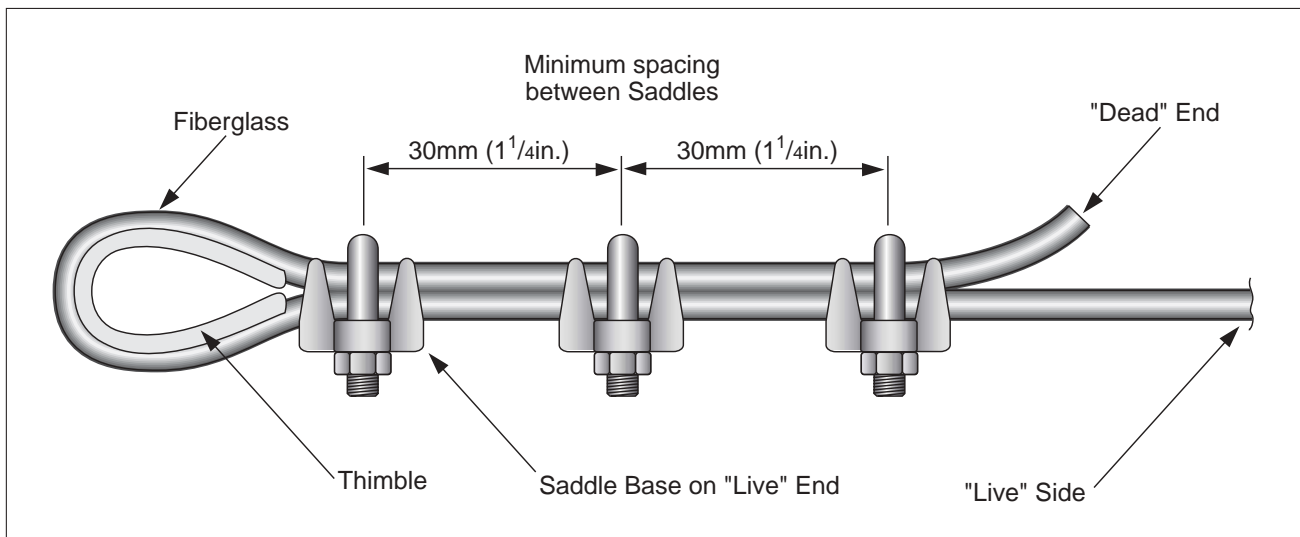

Figure 30: Correct methods of guying.
- Each of the guying kits comes with six stainless steel thimbles to relieve stress on the guys at the anchor points. These thimbles **MUST** be used when guying. See Figure 30.